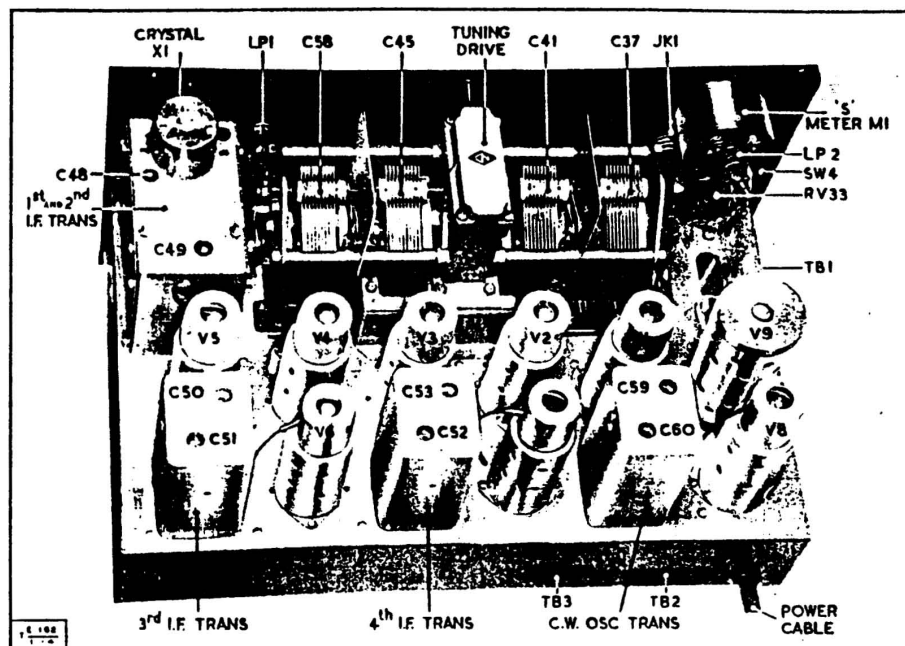

Fig 4 - Chassis, top view
16. The circuit diagram of the R106 Mk 1 is shown in Fig 1001. The aerial, R.F. and oscillator coil circuits shown are for the J type coil unit covering from 50-100kc/s. Fig 1002 shows the respective circuits for all the coil units. The circuit of the R106 Mk 2 is similar to the Mk 1 except as noted in Table 1001 and Fig 1001. Top and bottom views of the chassis are shown in Figs 4 and 5.